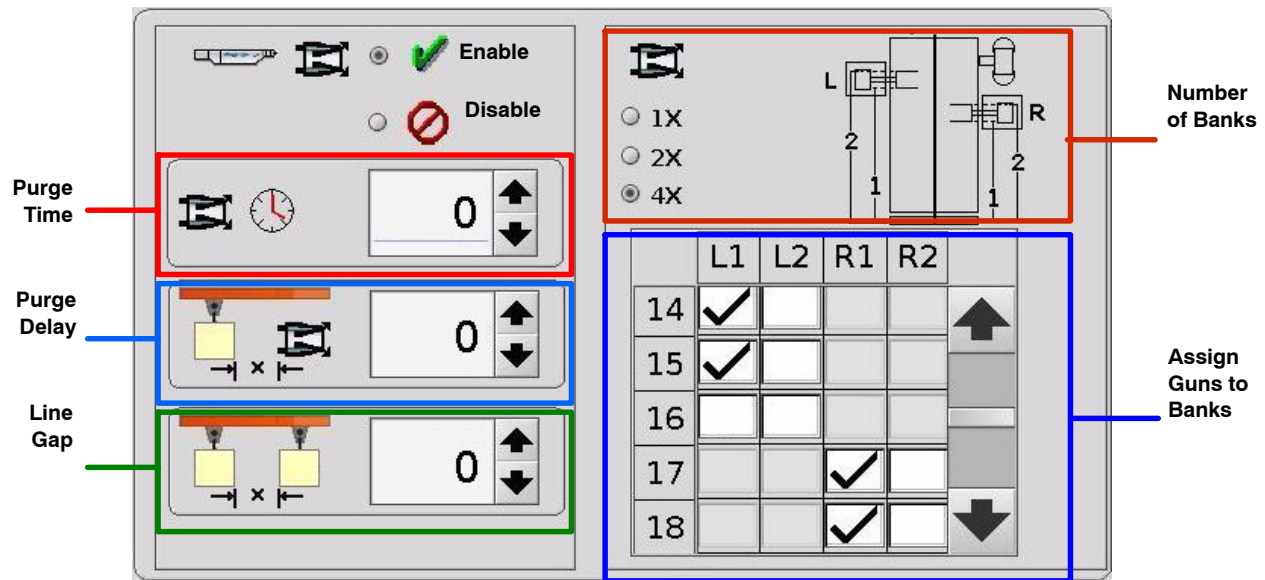

Figure 3-23 Versa-Spray Nozzle Purge Configuration
1. See Figure 3-23. **Enable** nozzle purging by touching the radio button next to the check mark.